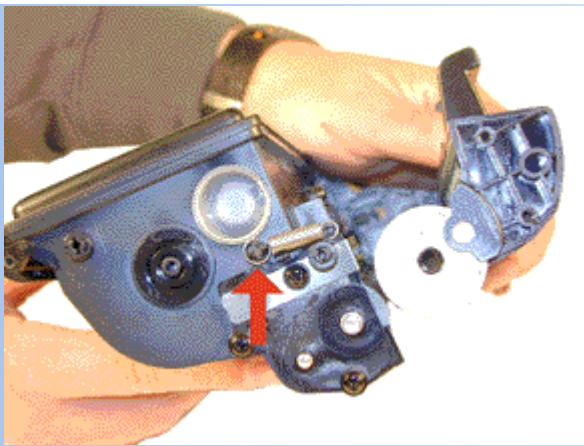

FIGURE 29
24. Place the large loop of the second spring on the large hopper post. See Figure 29